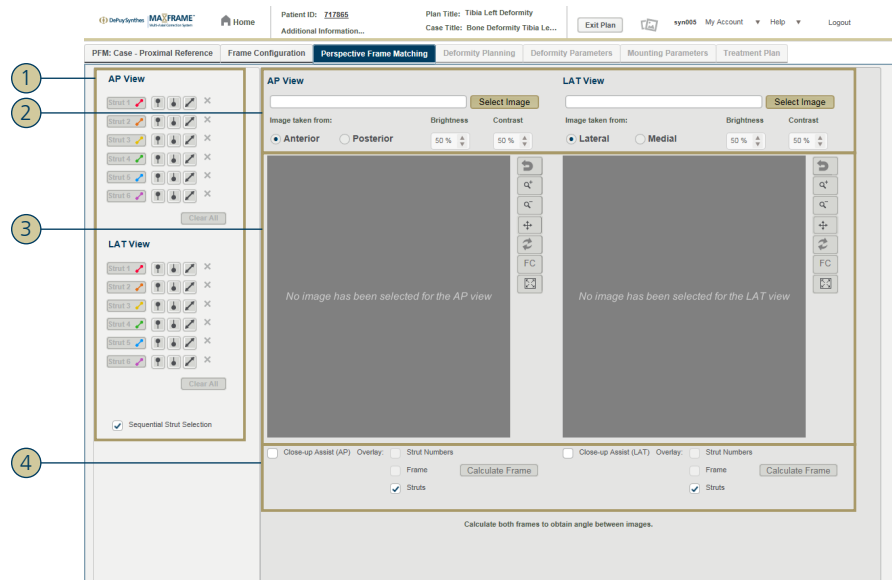

Figure 68 – PFM—Overview
6. Click the **Select** button of the desired AP image. The **Select AP Images** dialog closes and the selected AP x-ray image is displayed in the AP view. The image file name is displayed to provide confirmation that your selected image is correct. The strut and hinges selection buttons (cf. [1] in figure 68 on page 63 for the AP view) are enabled.